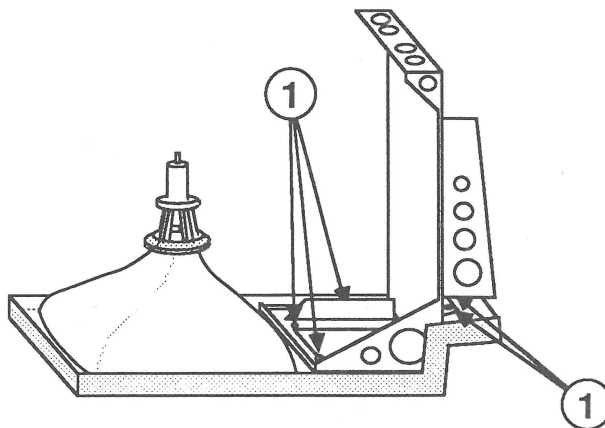

FIGURE 41
5. Remove five Torx screws (Figure 41, #1) and lift out the metal chassis with hard disk and/or drive(s).